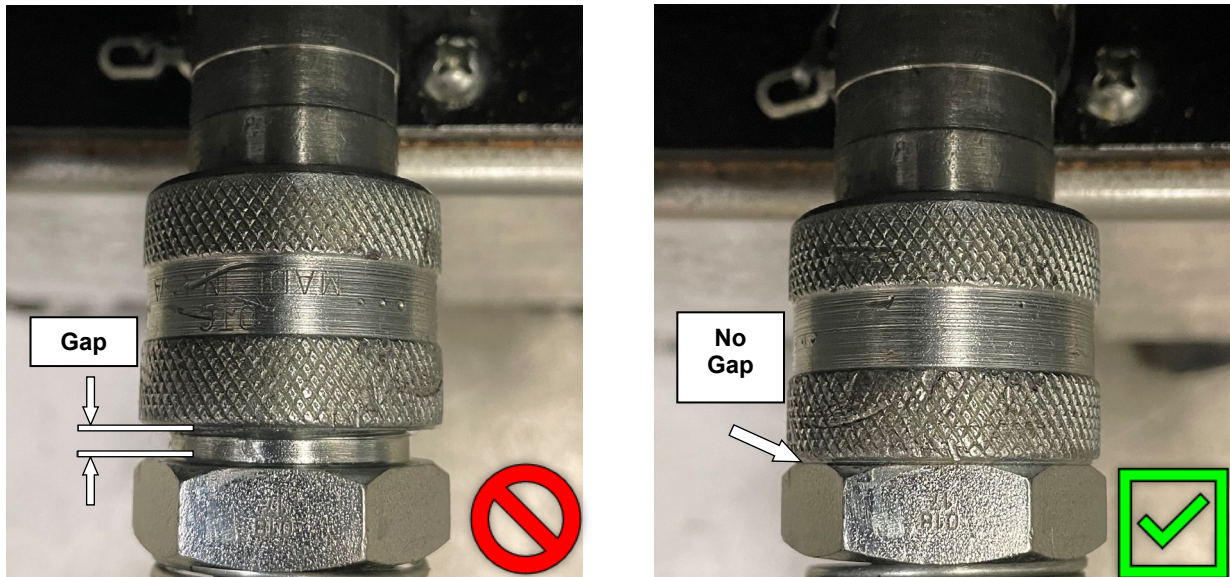

Figure 3.1-2
17. ⚠ Before operating the pump, tighten all hose connections using the proper tools. Do not overtighten the connections. Connections need only be tightened securely and leak-free. Overtightening may cause premature thread failure or cause high-pressure fittings to split at pressures lower than their rated capacities. See Figure 3.1-2.
5. Remove protective caps from the hydraulic fittings and thread the hydraulic hose fitting from the puller unit (male) onto the hydraulic fitting of the FTI PowerPak (female). Wipe fittings clean prior to connecting. Make sure to thread couplers completely together, with no gap visible. See Figure 3.1-2 below.